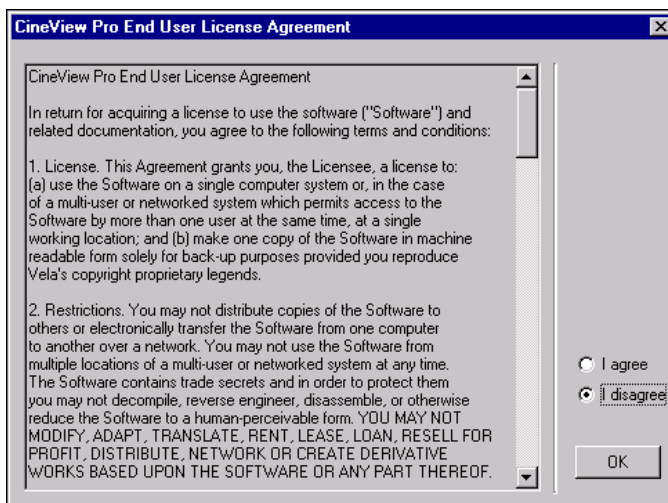

Figure 1-19. CineView License Agreement Screen
- On the “CineView Pro End User License Agreement” screen (Figure 1-19), select the “I Agree” radio button after reading the agreement. Then click OK. The application will install some files.